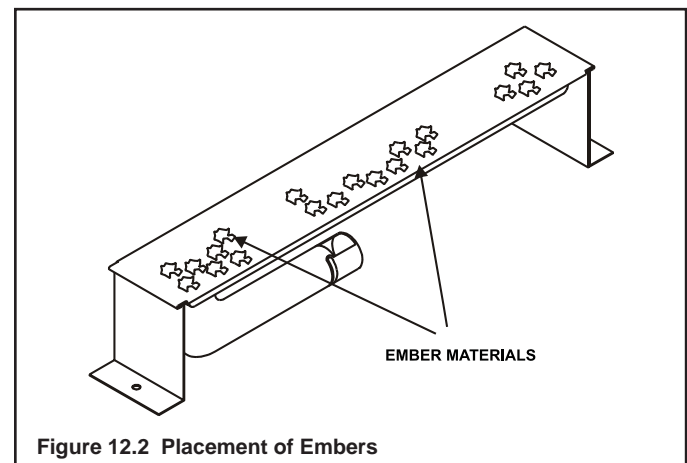

Figure 12.2 Placement of Embers
- When placing Glowing Embers® onto the burner care should be taken so that the ports are not covered. Place the dime-size ember pieces about 1/2 inch apart near port holes in burner top, but not on or in between the ports. For best performance do **NOT** place embers on ports at rear of burner (see Figure 12.2). Failure to follow this procedure will likely cause lighting and sooting problems.